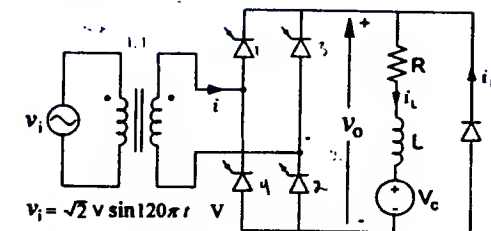

Figure 2: A full-wave controlled rectifier.
2. A single-phase, full-wave, phase-controlled rectifier supplies an inductive load as shown in Figure 2. For $V = 240$ V, $L = 11$ mH, $R = 3 \Omega$, $V_c = 100$ V and $\alpha = 35^\circ$;